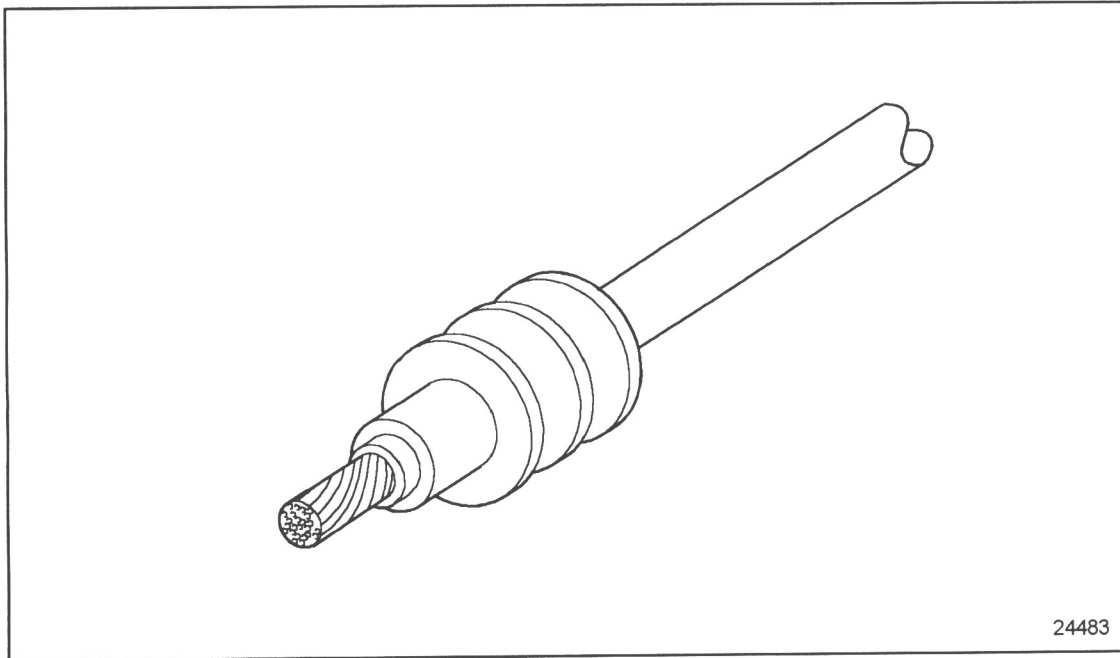

Figure 8-12 Proper Cable Seal Position
8. Strip the end of the cable using strippers to leave 5.0 ± 0.5 mm (0.2 ± 0.02 in.) of bare conductor. Position cable seal as shown. See Figure 8-12.